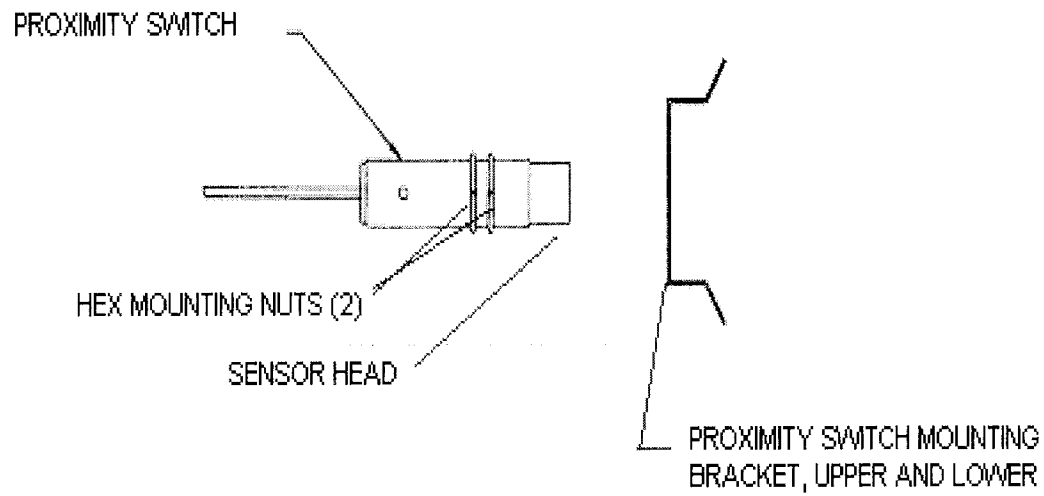

Figure 3-52 Proximity Switch Installation
These instructions are the same for the single section and two (2) section retaining wall assemblies. Refer to Figure 3-52.